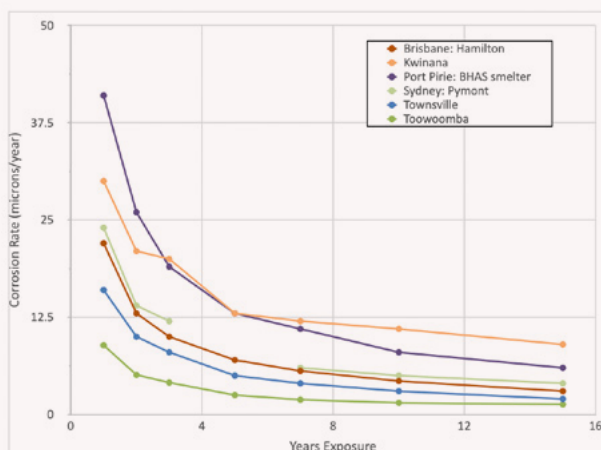

Figure 3: Decrease in weathering steel corrosion rate with time from six sites.
Figure 3 shows the differences between A588 coupon corrosion based on historical data available in the appendices of ASTM G101-04, and the predictions for corrosion using the three methods outlined above. The use of the composition-based model as described in ASTM G101-04 (Method 1) gives the greatest difference between historical data and predicted values, with underestimation of corrosion being dominant. Adoption of A242 historical witness coupon data without consideration of differences in corrosion resistance of the alloys (Method 2) resulted in a better estimation of A588 corrosion in most cases. However, underestimation of corrosion extent was generally evident, indicating the risks of adopting coupon data from a more corrosion resistant weathering steel to an alloy with reduced concentrations of alloying elements.
The modified interpretation of the composition-based model from ASTM G101-04, which was developed here as Method 3 resulted in very close prediction for environments where the first-year corrosion rate was below 30µm/year (Figure 3), corresponding to rates observed in the upper end of C3 for weathering steels [19]. However, this approach substantially overestimated 100-year corrosion in more aggressive
Figure 3: Validation of prediction for 100 year corrosion loss of A588 witness coupons based on: Method 1 - ASTM G101-04 using (2) and (3); Method 2 - A242 coupon data from ASTM G101-04; Method 3 - A242 coupon data modified using (4) and (5).
Figure 3 shows the changes in corrosion rate with exposure time from six selected sites with 15 years exposure, which cover a wide range of results and show a relatively smooth transition. (Other results, and those from similar overseas investigations, show more varied behaviour, but do not seriously contradict these examples).